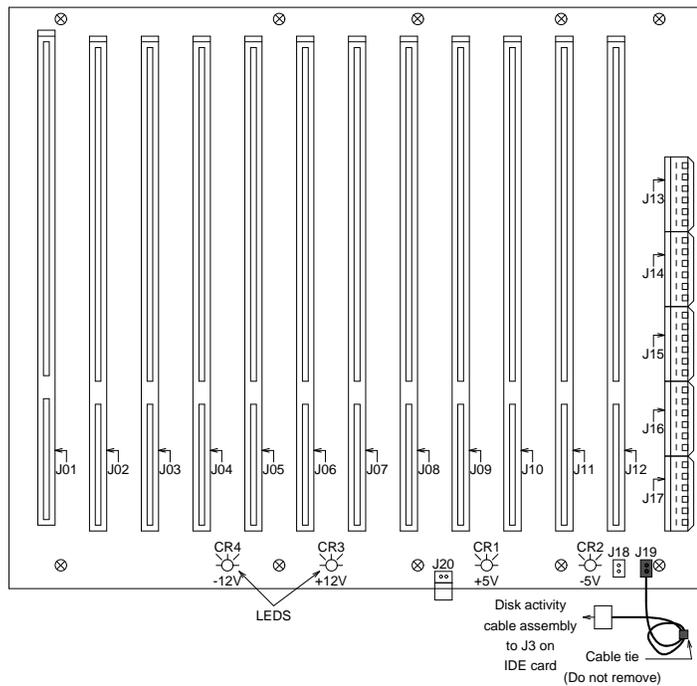

Figure 7-13. MAP/40 or 40s 12-Slot Backplane LED Indicators and Cabling
The following procedures detail removing and installing the 12-slot backplane, to which all of the circuit cards and peripheral device connections are made. The backplane (Figure 7-13) is located in the bottom of the MAP/40 or 40s card cage area as shown in Figure 7-4.
7. Unplug the disk activity cable assembly from J19 pin header on the backplane as shown in Figure 7-13.
2. Inspect the backplane to verify that the J20 jumper shown in Figure 7-13 is present. If this jumper is provided continue with Step 3. If this jumper is not provided, complete Steps a through c.
- The four backplane LEDs CR1 through CR4 shown in Figure 7-13 are all lit to show that the appropriate voltages are being applied to the backplane.